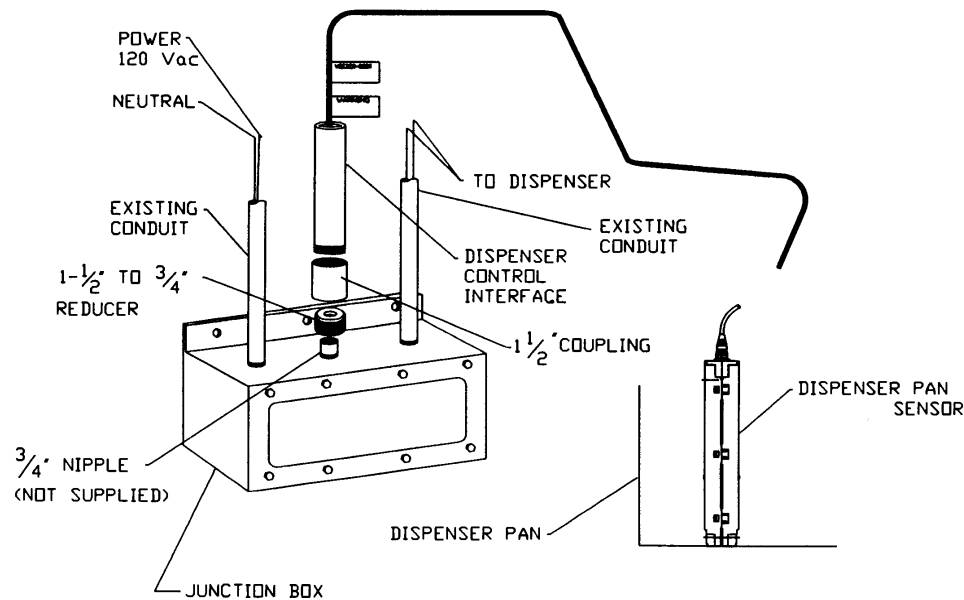

Figure 1. Typical Dispenser Control Interface Installation
4. Insert WHITE, BLACK, AND RED wires from the dispenser control interface into the threaded opening in the junction box. Screw the interface into the junction box and tighten. See Figure 1 below. At least 5 full threads must be engaged between each interconnect of the conduit.
Important ☞ *Check to see that the Intrinsic Safety WARNING Label is still securely attached to the cable. The labels must be attached to the cables at all times. Replace them if they are missing or the wording is not legible. See Figure 2 below; refer to Figure 1 for label location.*